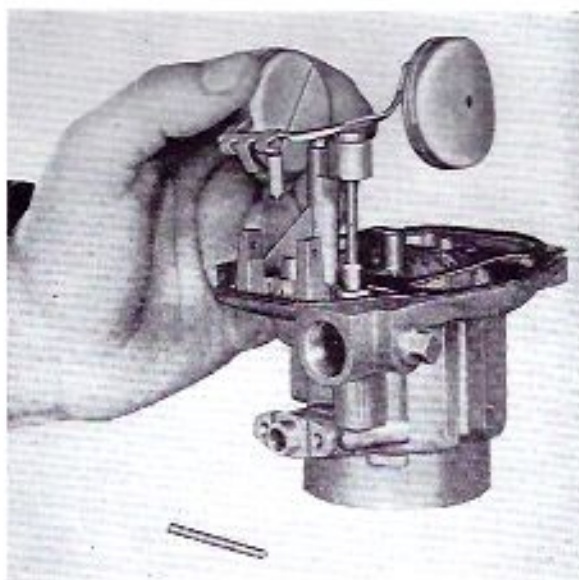

Figure 9. Air Horn Assembly
6. Assemble float needle to float and place float carefully into position. Tang at rear of float must face cover. Install float hinge pin as shown in Figure 9.